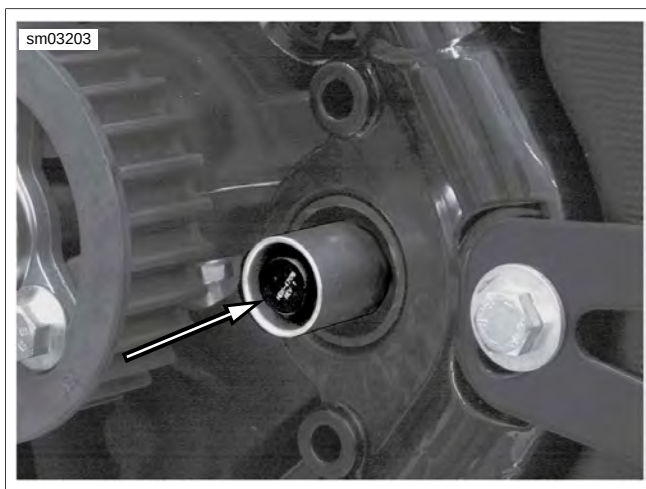

Figure 2-139. Push Guide flush with Spacer
3. See Figure 2-139. Push swingarm guide flush with face of left side spacer.